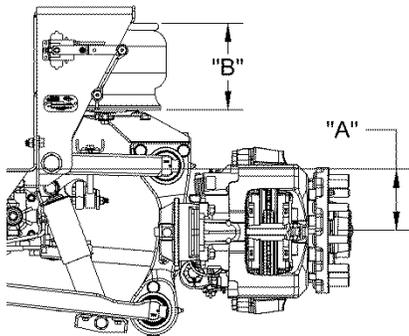

Figure 11 – Measurement at Ride Height
The ride height of the front suspension is the distance from the bottom of the chassis frame rail to the center of the wheel spindle. An alternate measurement may be taken as the height of the air spring (Figure 11).
4. Measure either the wheel center to bottom of frame (“A”) or air spring height (“B”). If the dimensions are not within $\pm 1/8$ ” of measurements in Figure 11, adjust as follows.